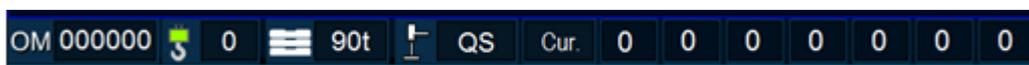

Figure 4-19 OM display
- c) Display of OM code, reeving, counterweight, power takeoff state, telescoping combinations etc. in real time and outrigger status, etc. Refer to Figure 4-19.